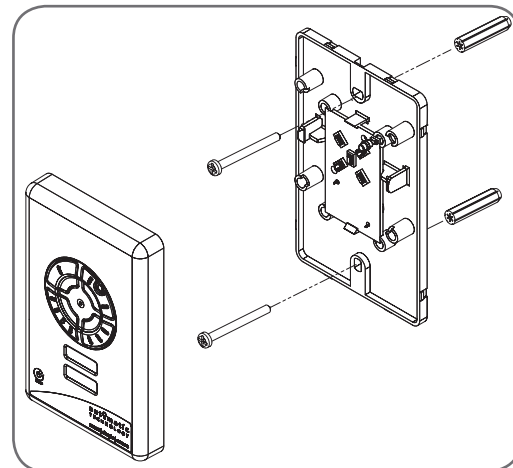

Fig 18.3
- Affix the base plate at a height of 1.5 metres within sight of the door. Make sure that the position of the transmitter is out of reach of children and convenient to the customer (Fig. 18.3).